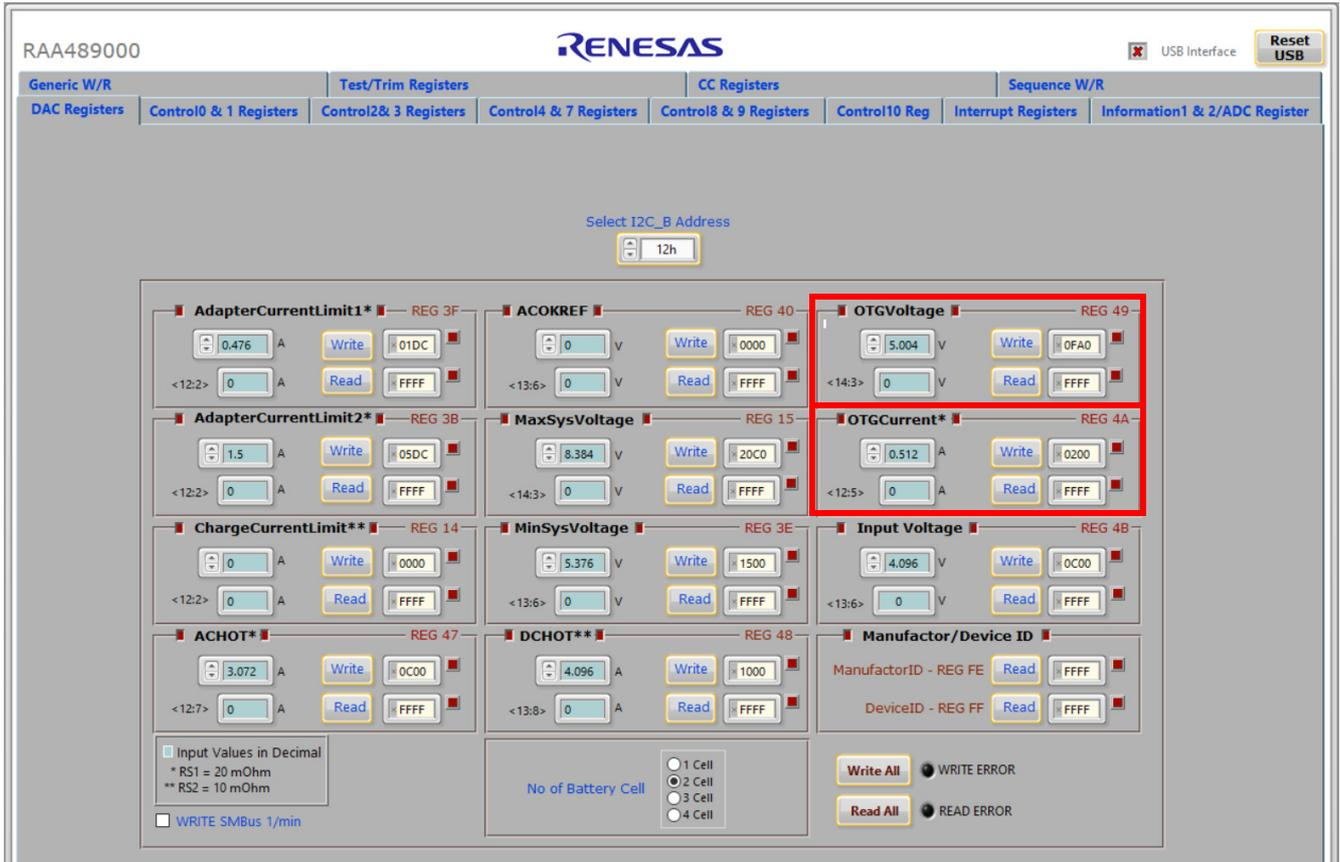

Figure 9. OTGVoltage and OTGCurrent Settings in GUI
4. Open the RAA489000 GUI. **OTGVoltage** is the voltage value for the load side, as shown in Figure 9, and **OTGCurrent** is the OTG output current limit at the load side. You can set these values as needed within the output limit range. See the RAA489000 datasheet for the limit ranges.